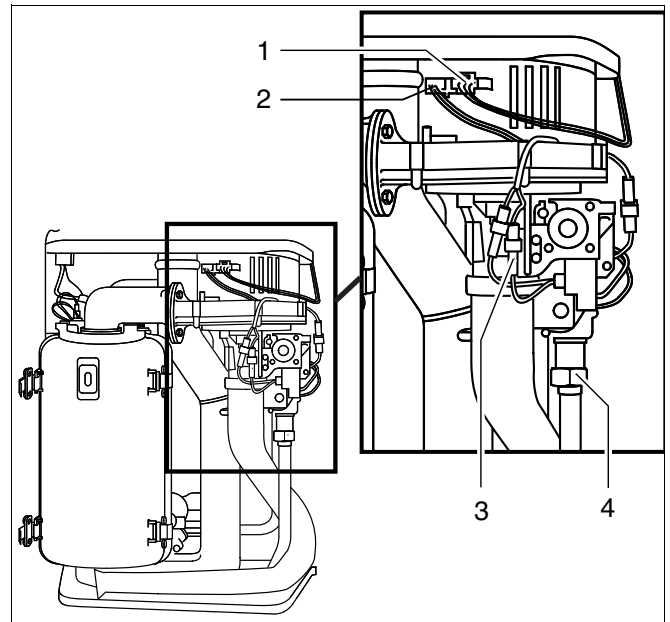

Fig. 37 Loosen the union nut and remove the cable
- Release plug-in connection of fan power lead (fig. 37, item 1), burner-control unit fan control lead (fig. 37, item 2) and gas-burner assembly (fig. 37, item 3).
- Loosen union nut on gas valve assembly (fig. 37, item 4).
- Release plug-in connection of fan power lead (fig. 37, item 1, page 41), burner-control unit fan control lead (fig. 37, item 2, page 41) and gas-burner assembly (fig. 37, item 3, page 41).
- Loosen union nut on gas valve assembly (fig. 37, item 4, page 41).